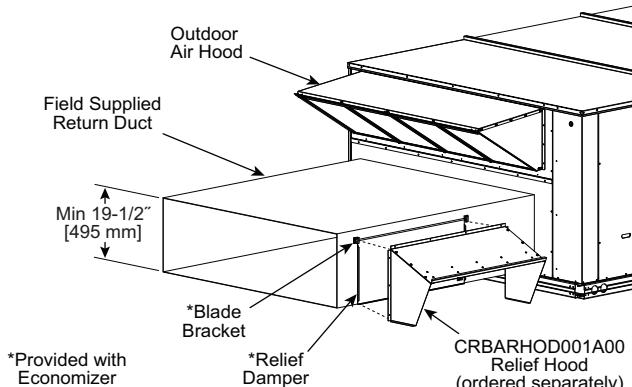

Fig. 20 — Installing CRBARHOD001A00 Over Relief Damper
- Using the blade brackets, install the relief damper onto the side of the return duct (see Fig. 20). The two brackets and relief damper are provided with the economizer.
Caulk the backside of the mating flanges to ensure a watertight seal. Install the CRBARHOD001A00 over the relief damper and screw to the return duct, as illustrated in Fig. 20.